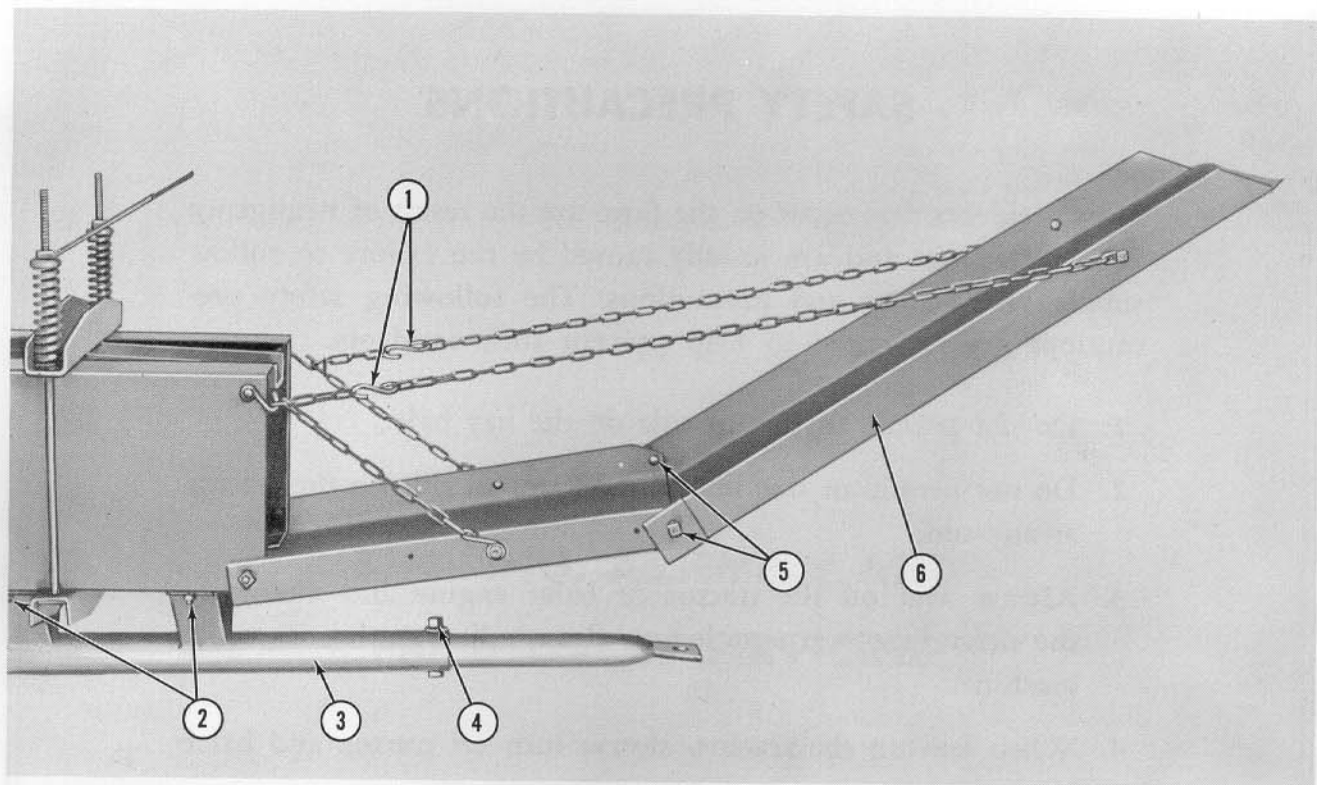

Figure 34
For operators who desire to hitch a wagon to the baler and load bales directly from the bale chute onto the wagon, a Wagon Hitch and Bale Loading Chute are available, at extra cost, from your local Ford Tractor and Implement Dealer. These attachments, which are shown in Figure 34, are installed as follows:
1. Remove the round head screw holding the axle brace to the bale chamber. Attach the wagon hitch (3), Figure 34, to the underside of the bale chamber side channels with the three round head screws, lockwashers and hex nuts (see 2), then reattach the axle brace to the right front hitch support and tighten securely.
2. Attach the bale loading chute (6), Figure 34, to the bale chute with two round head screws, lockwashers and nuts (5).
3. Raise the bale loading chute to the desired height and attach the hooks (1), Figure 34, to the ends of the bale chute chains as shown.
4. Adjust the hitch to the proper length for the wagon tongue by removing the bolt, lockwasher and nut (4). Reinstall the bolt and tighten securely.